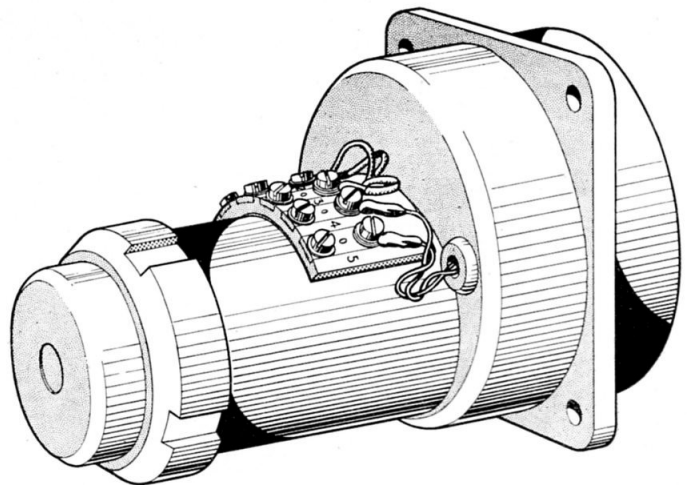

Fig. 1. Torque switch, Type B
5. The switch (*fig. 1 and 2*) consists of a small 3-phase eddy current motor coupled to a switching device by a pinion and gear wheel.